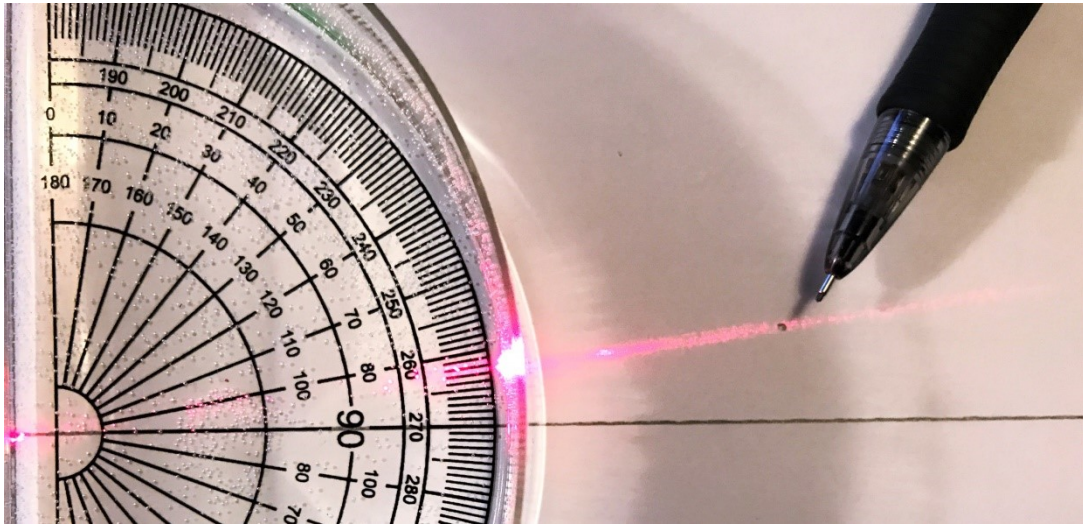

Fig. 7: Laser light exiting the semi-disk and making a line on the paper. A pencil is used to mark a point on that line.
- Check to see that the refracted ray exits the semi-disk perpendicularly to the curved surface and makes a line on the paper (see Fig. 7).